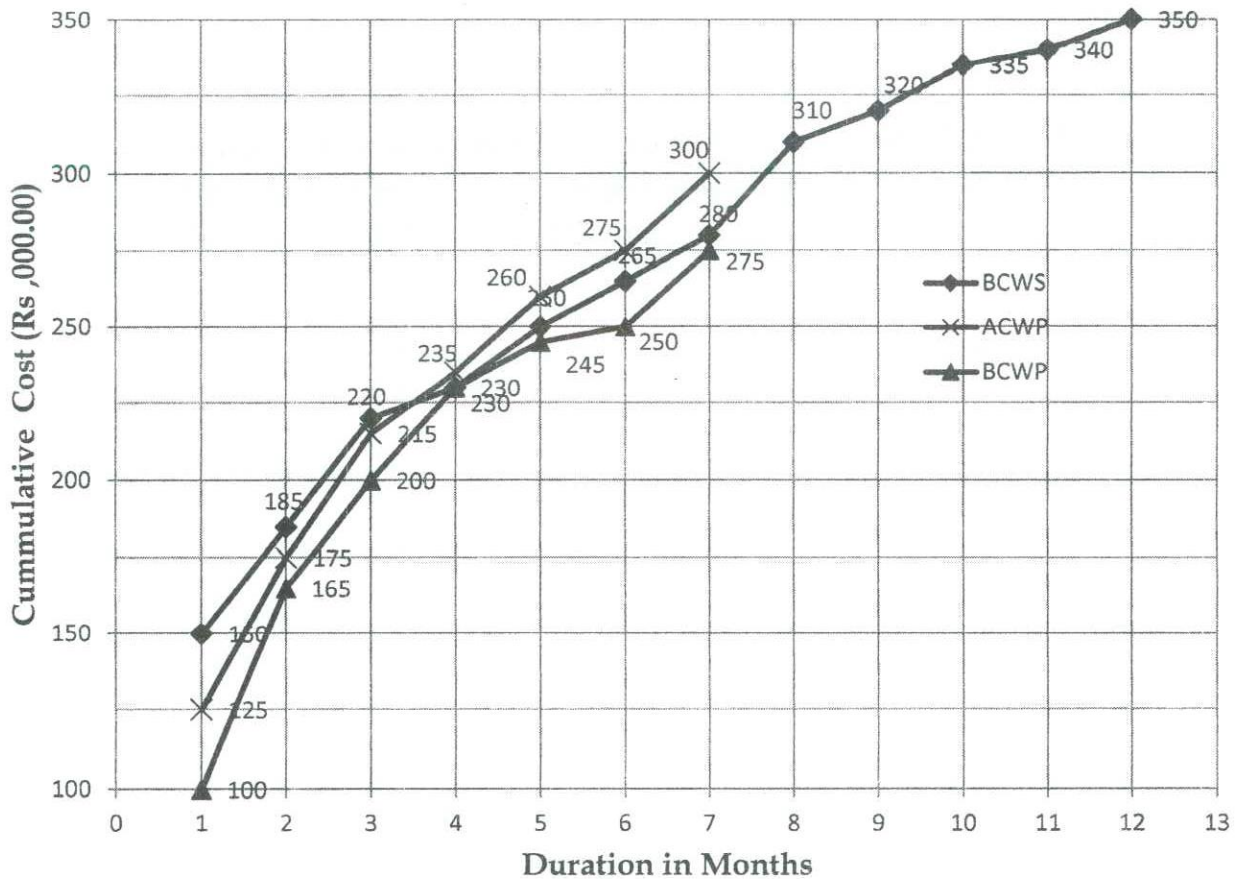

Figure Q1: Earn Value Chart
- c) Figure Q1 represents an Earn Value Chart for a 12-month project updated at the end of month 7.